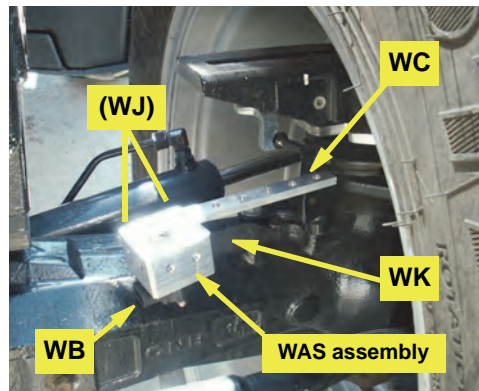

Figure 2c: WAS assembly installed
c. Using hardware **WJ** (not visible), mount the WAS assembly (from steps 1a-1c) on bracket **WK**. Mount the assembly with wire connector **WB** at the bottom and facing inward (toward the machine) and **WC** facing outward (Figure 2c).